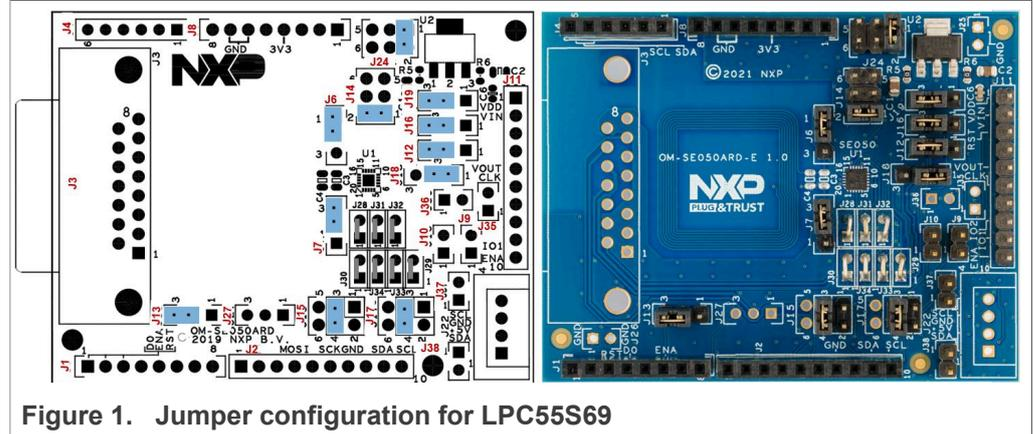

Figure 1. Jumper configuration for LPC55S69
1. The OM-SE05xARD boards have jumpers that allow you to use the EdgeLock SE05x I²C interface via the Arduino header. Configure the jumper settings as shown in Figure 1 to enable this option.